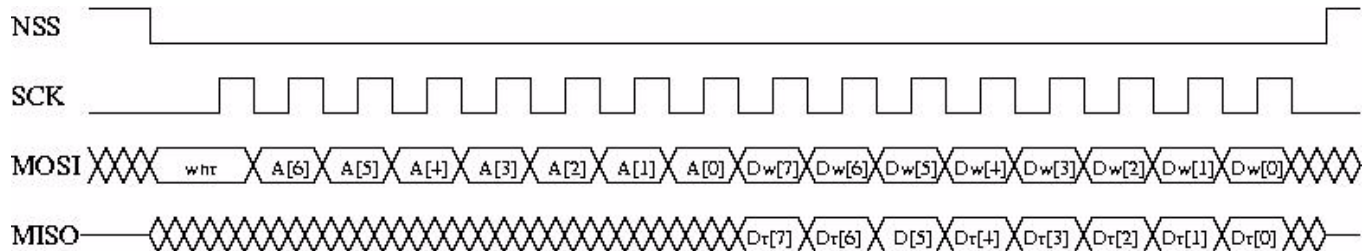

Figure 25. SPI Timing Diagram (single access)
- ◆ **FifoLevel:** Threshold can be programmed by *FifoThreshold* in *RegFifoThresh*. Its behavior is illustrated in figure 25 below.